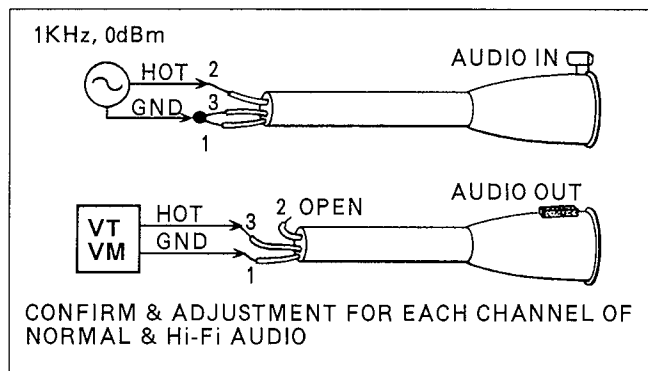

Figure E46
2. Connect the V.T.V.M.(D.V.M.) to NORM/Hi-Fi AUDIO OUT (CH1/CH2) as shown in Figure E46.
4. Connect the V.T.V.M.(D.V.M.) to the Hi-Fi AUDIO OUT (CH1/CH2) as shown in Figure E46.